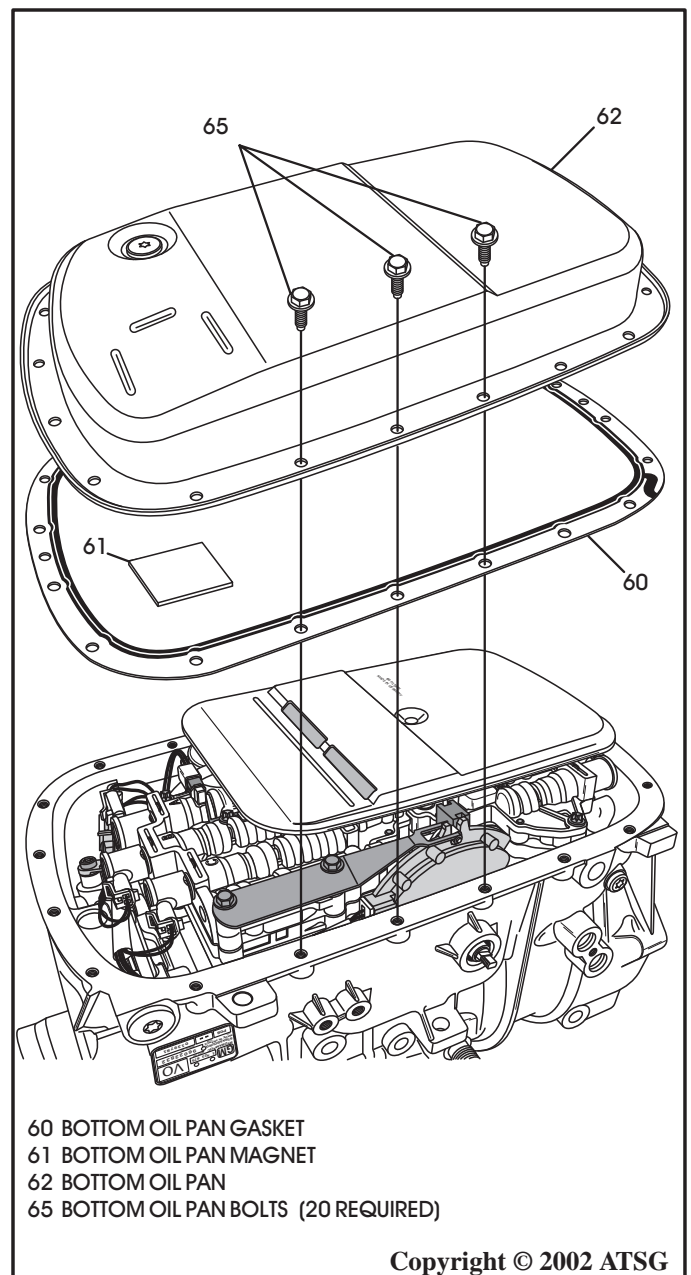

Figure 205
15. Install a new bottom pan gasket onto the transmission case, as shown in Figure 205.
16. Ensure that the bottom pan magnet is in proper position in the oil pan (See Figure 205).
17. Install the bottom transmission pan onto the transmission, as shown in Figure 205.
19. Install the 20 bottom oil pan bolts, as shown in Figure 205, and torque to 11 Nm (8 ft.lb.).